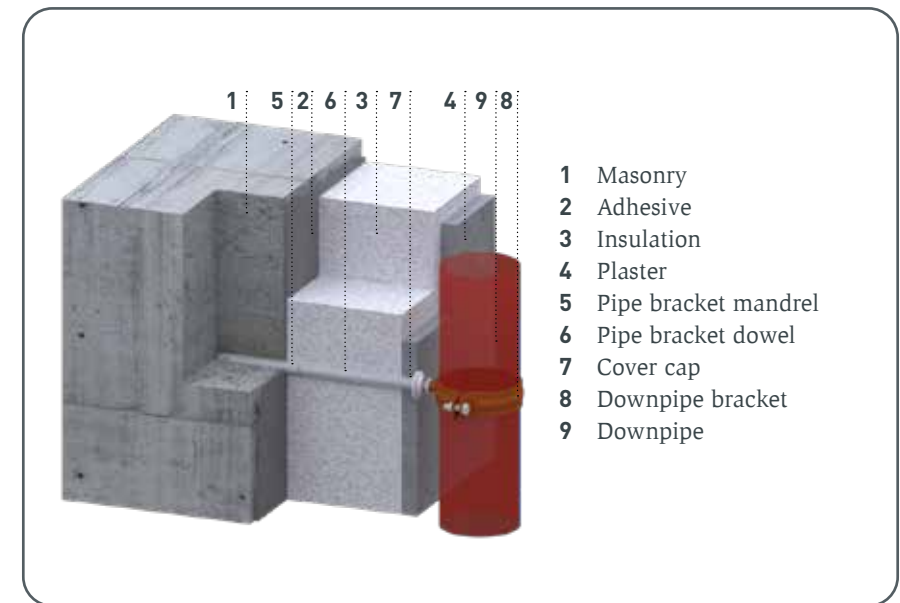

Fig. 7 • Pipe bracket dowel
- Screw the pipe clamp with M10 thread to the pipe clamp support. The distance from the pipe to the finished façade surface must be at least 20 mm (Fig. 7).